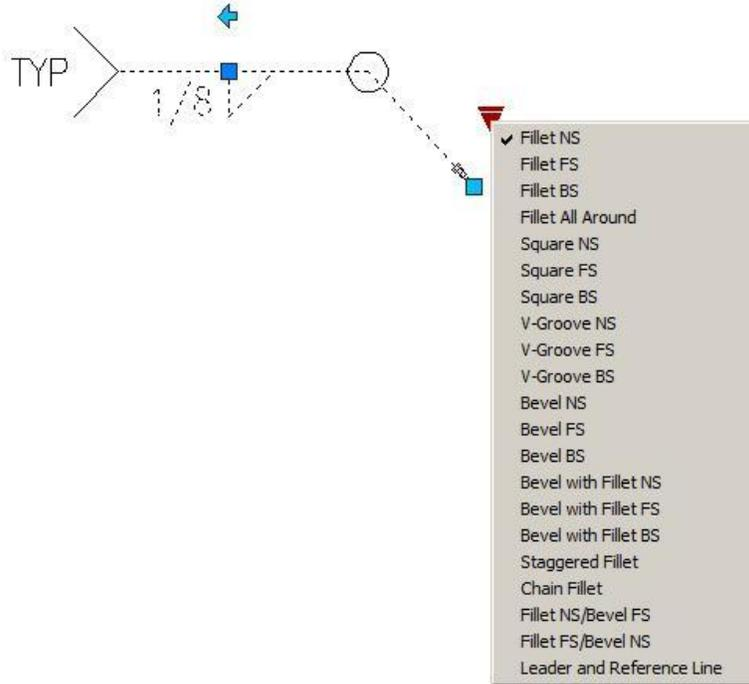

Figure 13: CG_WELD2 Dynamic Properties
The **visibility** grip on **CG_WELD2** (Figure 13) has a **popup** with a list of the most commonly used welding symbols. **NOTE: The other two dynamic blocks only need to be added to CG_WELD2 if the welding symbol is not listed or if a welding process note is required!** The capitalized letters after the symbol type stand for **Near Side (NS)**, **Far Side (FS)** and **Both Sides (BS)**. Use **Leader and Reference Line** along with **CG_WELD_SYM2** for creating welding symbols that are not available on the list.